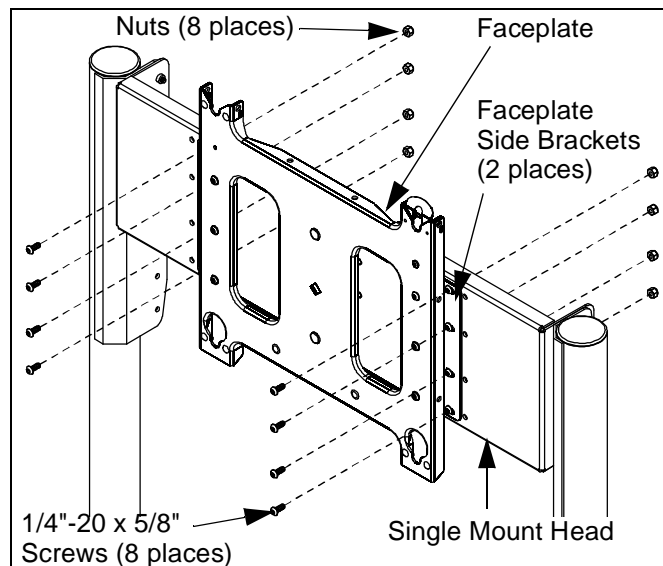

Figure 2: Remove Faceplate/Side Bracket Assembly
2. Using hex key (60), remove eight 1/4"-20 x 5/8" button head cap screws attaching faceplate side brackets to single mount head (See Figure 2). Do NOT remove side brackets from faceplate. Retain screws and faceplate/side bracket assembly for later use.